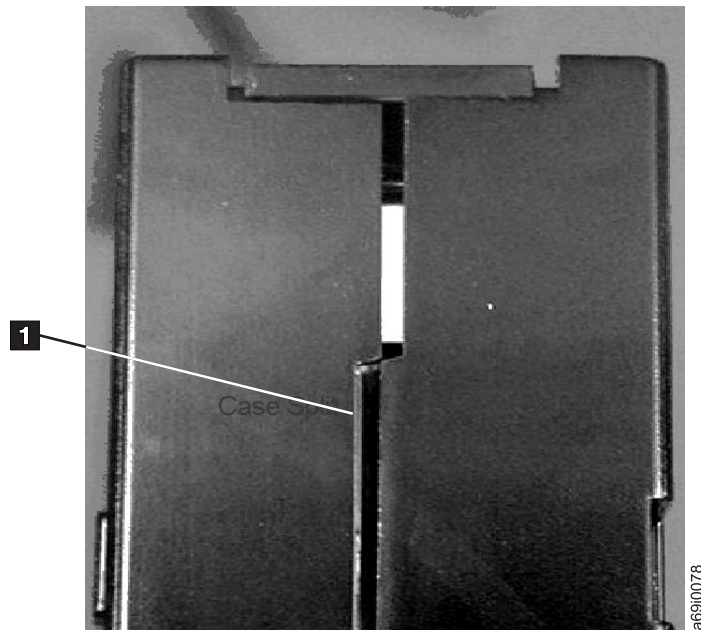
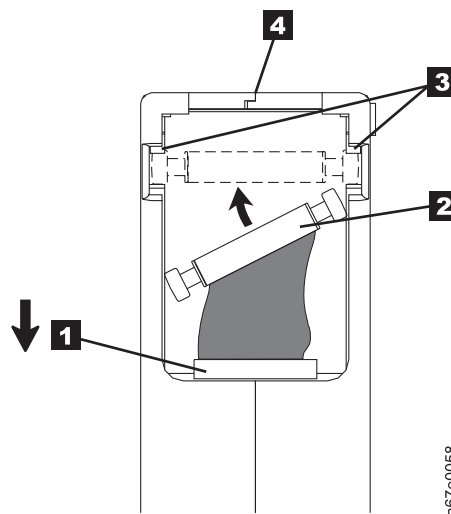

Figure 4-7. Checking for gaps in the seams of a cartridge
Figure 4-9. Placing the dislodged leader pin into the correct position. The cartridge door is open to show the leader pin.
- Inspect the rear of the cartridge (the part that loads first into the tape load compartment) and ensure that there are no gaps in the seam of the cartridge case (see **1** in Figure 4-7 on page 4-10 and **4** in Figure 4-9 on page 4-12). If there are gaps in the seam (see Figure 4-7 on page 4-10), the leader pin may be dislodged. Go to “Repositioning or Reattaching a Leader Pin” on page 4-11.
Example: Split Cartridge Case (see Figure 4-7)
1. Slide open the cartridge door (**1** in Figure 4-9) and locate the leader pin (**2** (you may need to shake the cartridge gently to roll the pin toward the door).